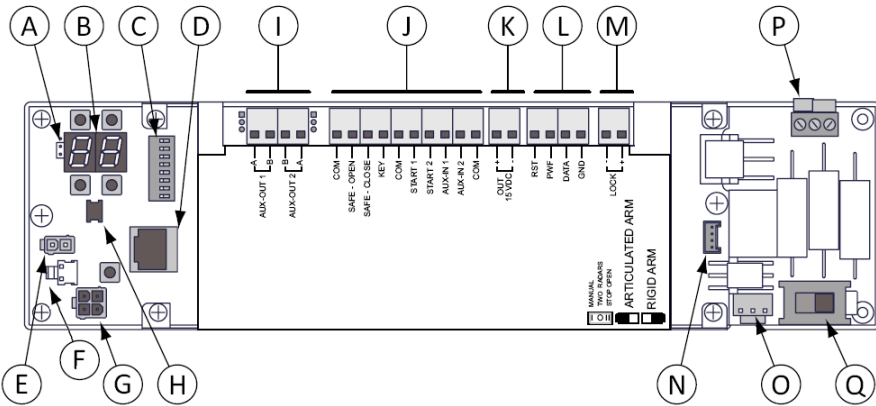

Fig.19 Control board layout
With power off, connect plugs (Fig19) for:
Primary functions and options of operator are set via dip-switches on control board (Fig 19 – C)
- Set power switch to OFF (O)
- Set power switch to ON (I).
- Display orientation is set via adjacent jumper (Fig19 –A).